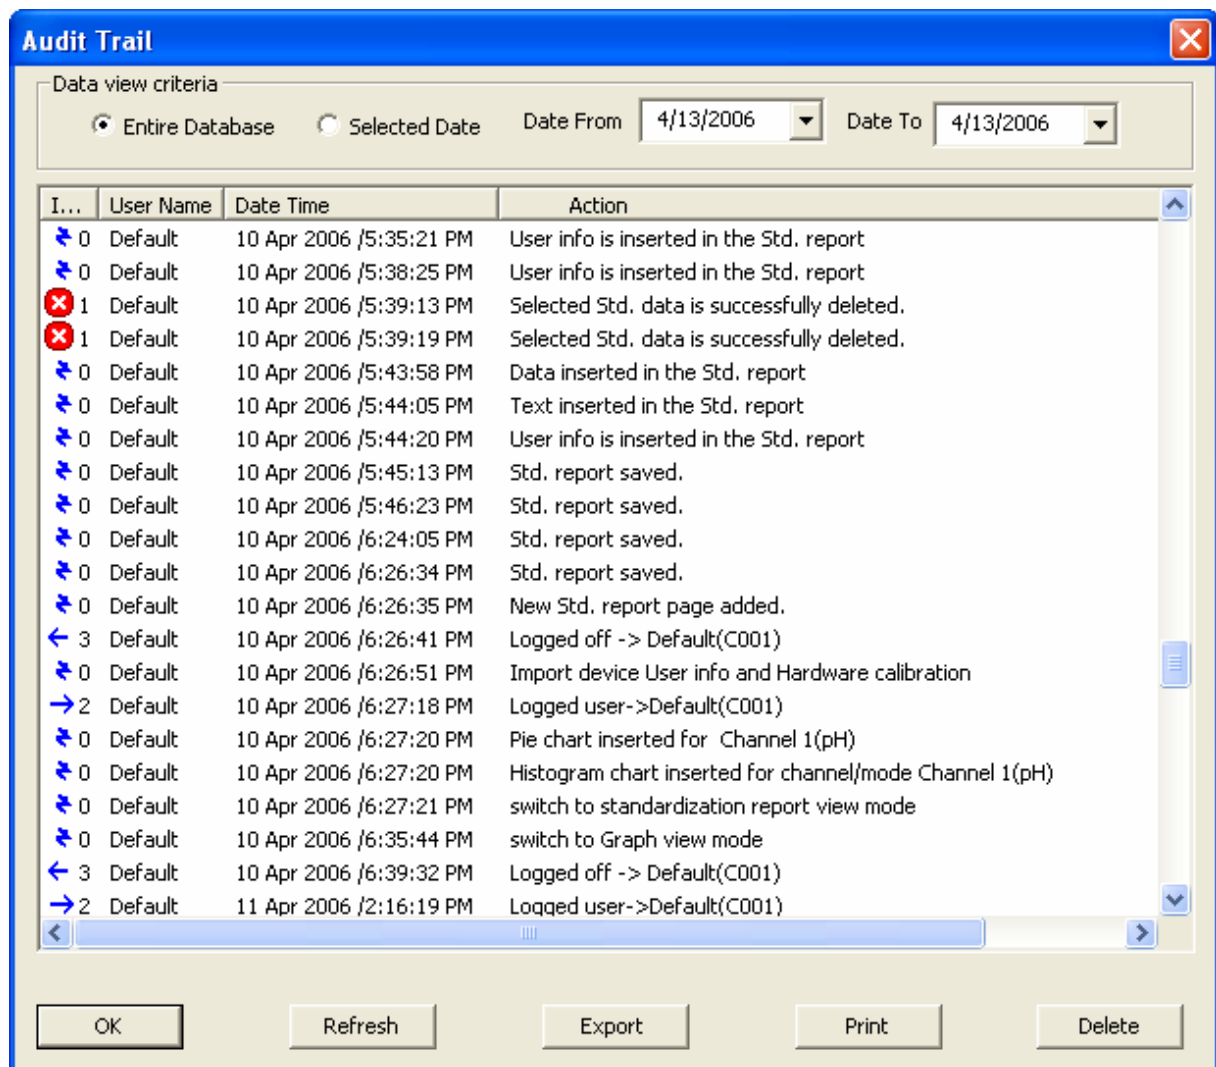

Figure 49 : Audit Log
2. **Audit Trial** dialog appears. (Figure 49)